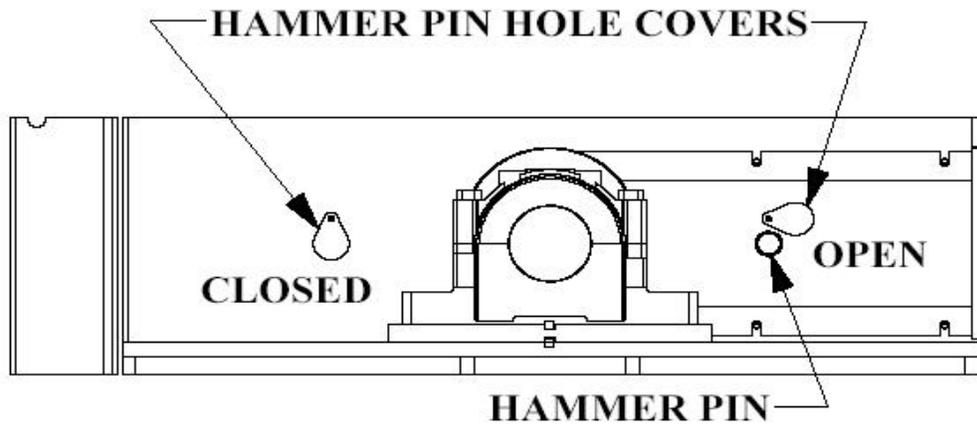

Figure 5-8: Hammer Pin Hole Cover positioning
- 2.) Open the Hammer Pin Hole Covers see figure 5-8.